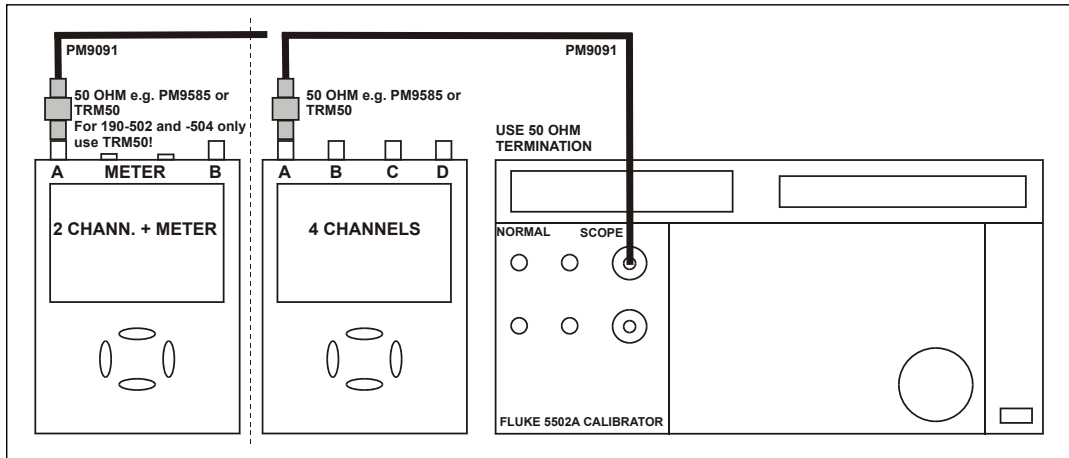

Figure 4-6. 5502A Scope Output to Test Tool Input A
1. Connect the Test Tool to the 5502A as shown in Figure 4-6.